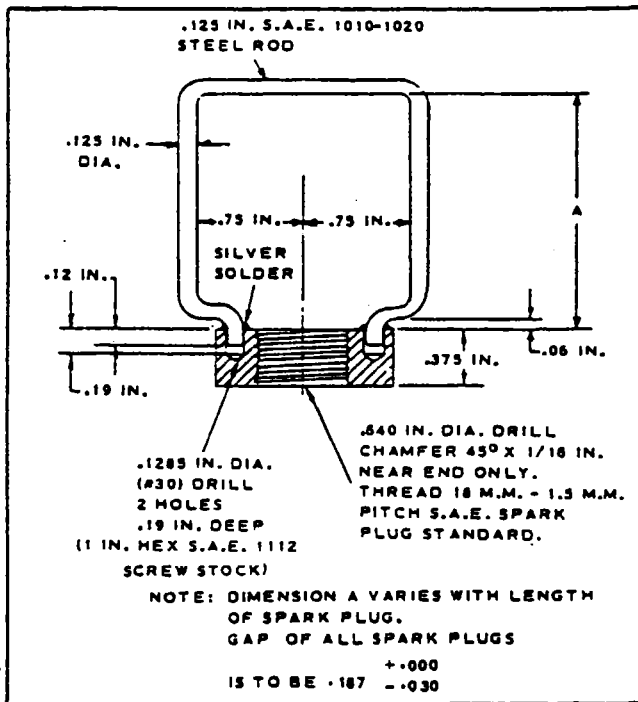

Figure 13-10. Spark Plug Fixture
- d. A spark gap of 0.187 inch (plus 0, minus .030). A convenient means of arranging the correct spark gap is to install a spark plug, P/N 39D18, in a test fixture arranged to provide a ground electrode and a .187 inch spark gap. (Refer to Figure 13-10 for information on fabricating this fixture.)
Any one of several spark plugs may be used with the spark plug fixture detailed in Figure 13-10. However, the "A" dimension in that sketch must be varied with the length of spark plug electrode to provide a gap of .187 inch for all spark plugs.